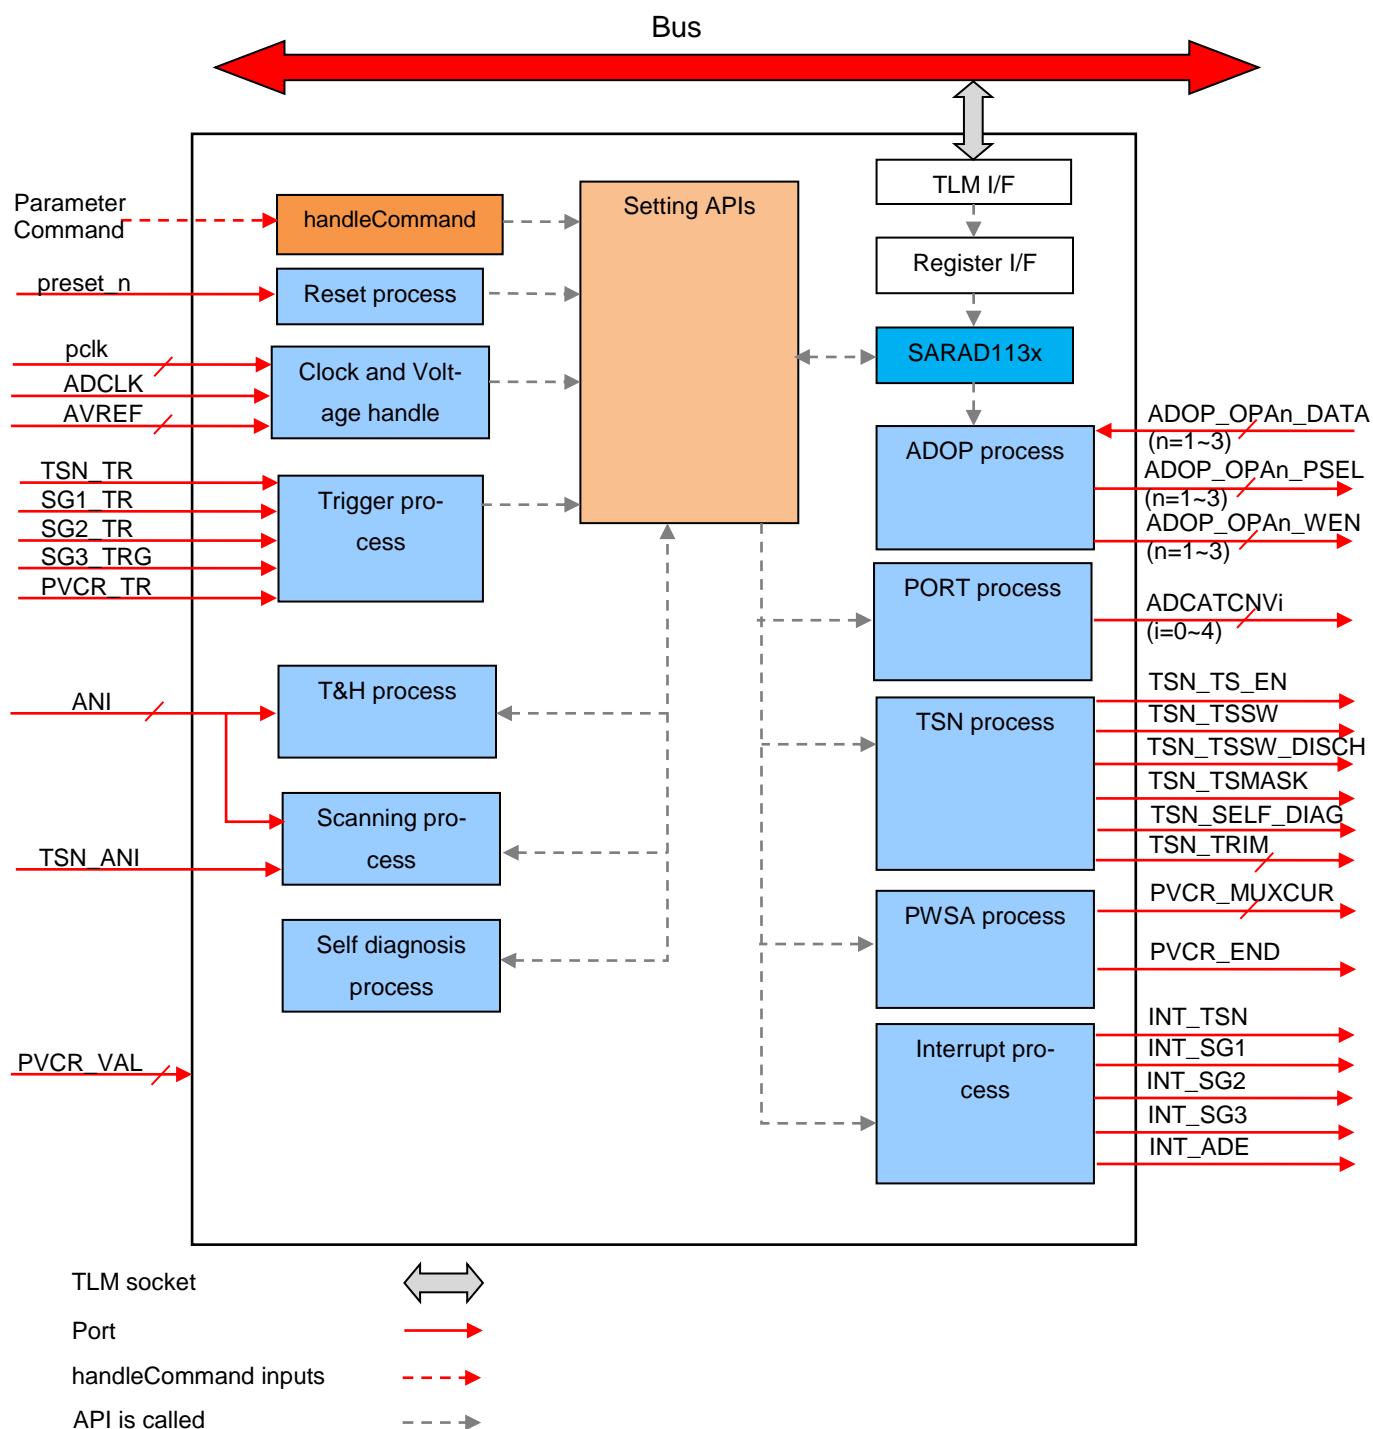

Figure 3.1: Block diagram of F1K/SARAD113x
- (1) The Figure 3.1 shows the block diagram of SARAD113x model.
- (2) Registers of SARAD113x model can be accessed through “*Register IF*” block. The register value can be written to or read from by TLM transaction.
- (3) When the parameters or commands are set by users, the “*handleCommand*” block will transfer them into SARAD113x model. “*handleCommand*” is used for following functions :